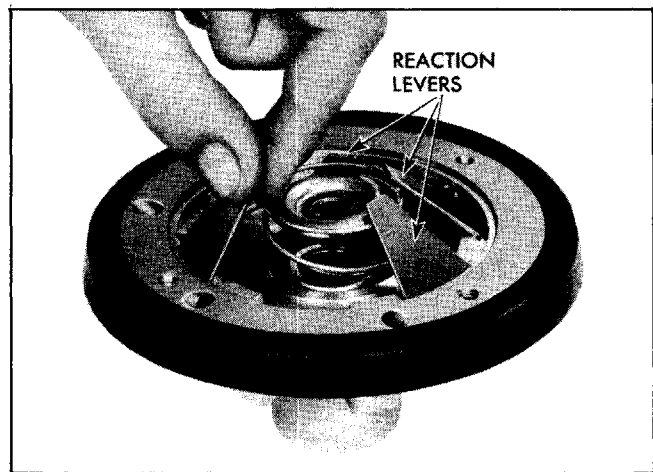
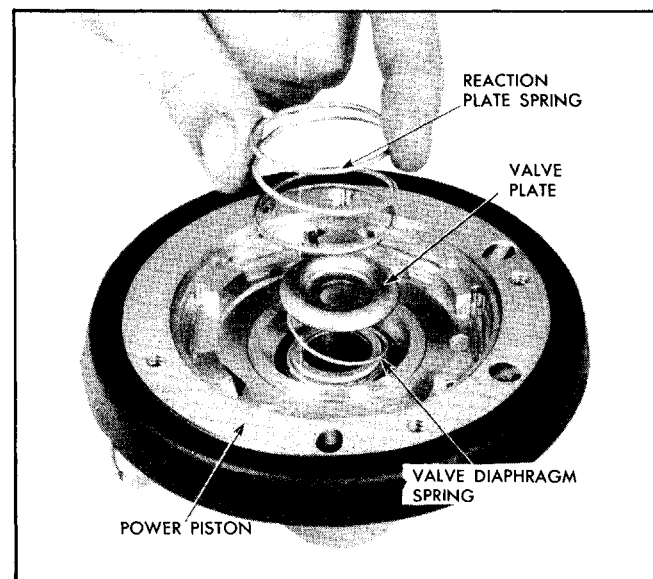

Fig. 5-58 Removing or Replacing Reaction Levers
Fig. 5-59 Removing or Replacing Reaction Spring
11. From counterbore of power piston, remove in order six fingers (or reaction levers), (Fig. 5-58) reaction spring, valve plate, and valve diaphragm spring (Fig. 5-59).
6. Snap valve diaphragm spring in place over valve spring retainer (Fig. 5-59).
7. Seat valve plate on top of valve diaphragm spring so that center portion nests in spring (Fig. 5-59).
8. Place reaction spring around valve diaphragm spring and seat in recess of valve diaphragm retainer (Fig. 5-59).
9. Set six reaction levers in place. Ears on levers fit into mating slots in face of power piston. Small ends of levers will extend toward the middle and rest of reaction spring (Fig. 5-58).